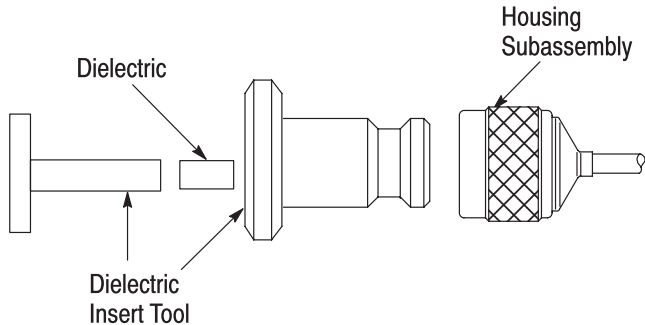

Figure 6
1. Thread the insert tool into the housing subassembly. See Figure 6.